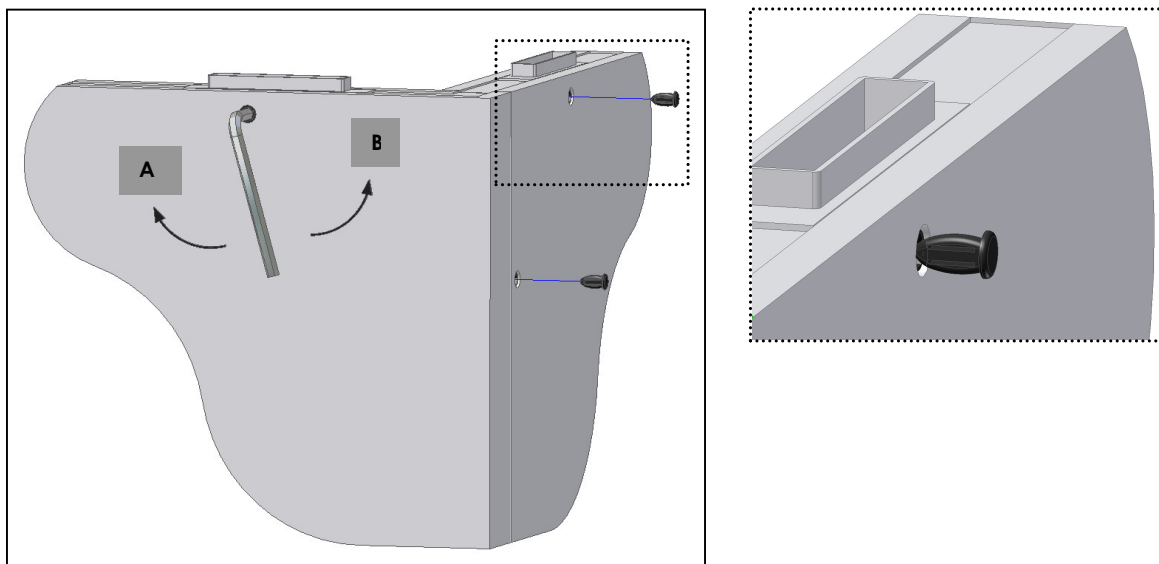

Fig. 11
- Turn the screwdriver like the hands of a clock till it stops. (Fig.11 – Position **A**);
- Turn the screwdriver on the other sense till it fastens. (Fig.11 – Position **B**)
- After fastening, insert the **covers** in the holes (Fig. 11).